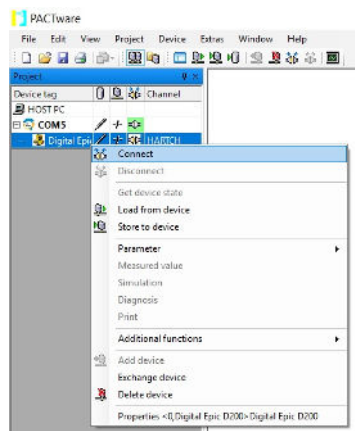

Figure 11: Connect Digital EPIC D200
- Back on the Project Window, right click Digital EPIC D200 DTM and click *Connect*. Once the connection is made, it will be highlighted. See Figure 11.